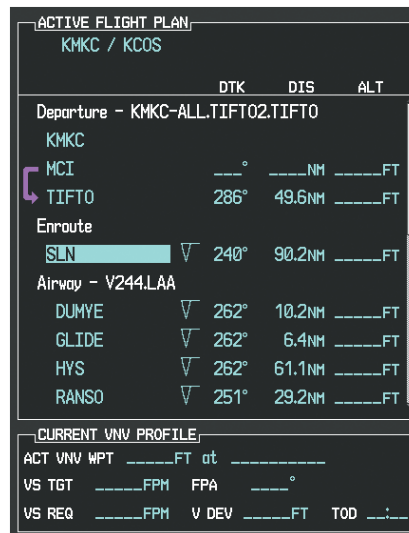

Figure 5-113 Begin Adding V4 to the Flight Plan
- b) The desired entry point for V4 (TOP) must be entered. Turn the large **FMS** Knob to highlight the desired flight plan insertion point (SLN) as shown in Figure 5-113. When the V4 entry point (TOP) is inserted, it is placed immediately above the highlighted waypoint (SLN).